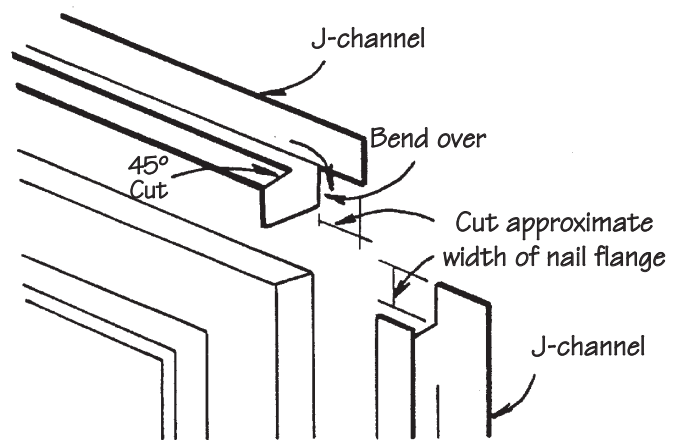

Figure 54.
- Cut the top J-channel the width of the frame PLUS the width of the side J-channels. Notch the top J-channel on each end, bend the tabs into the side J-channel, and fasten the top J-channel (Fig. 54).